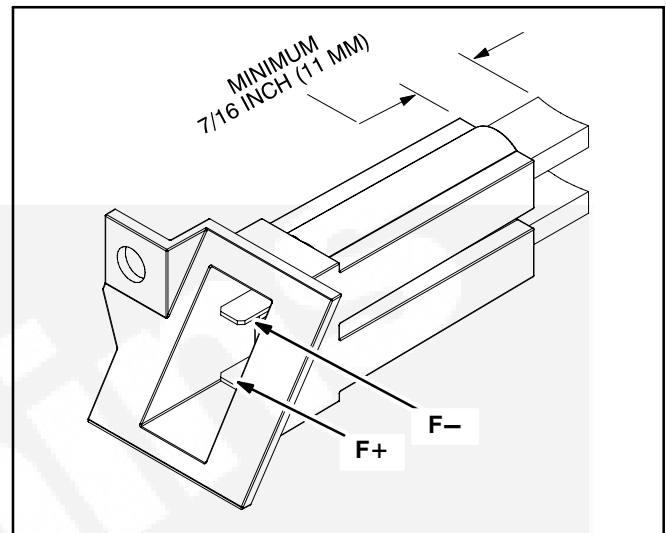

FIGURE 6-2. BRUSH BLOCK
**Service:** Disconnect the field leads from the brush block (Figure 6-2), remove the mounting screw and withdraw the brush block from the generator end bell. Replace the brush block assembly if either brush is shorter than 7/16 inch (11 mm), binds in the brush block or is damaged in any way.